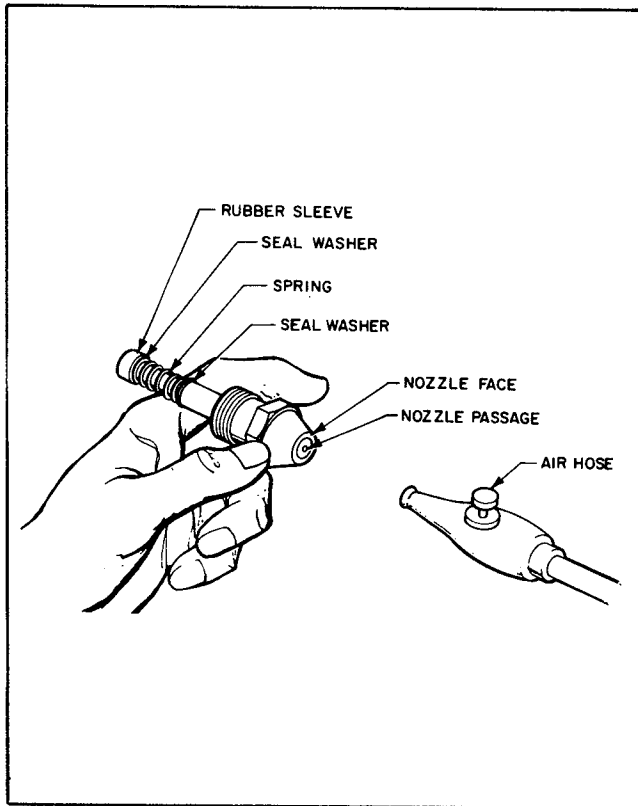

Figure 7. Blowing Out Nozzle
2. Soak the nozzle for one hour in non-flammable liquid cleaning agent. Blow it dry through the face (OUTLET END) only. See figure 7.